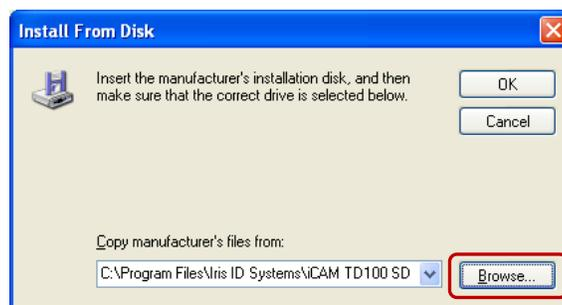

Fig. 11
6. Press > **“Browse...”** as shown in Figure 11